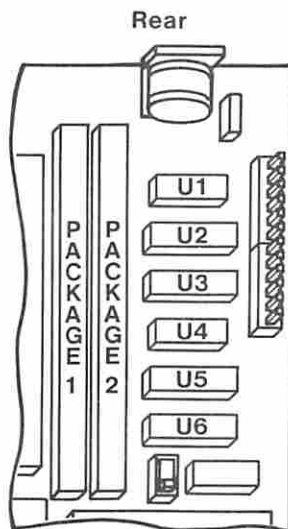

Figure 6. Memory Module Packages
- Replace Memory Module Package 2 (See Figure 6 on page 0200-13).